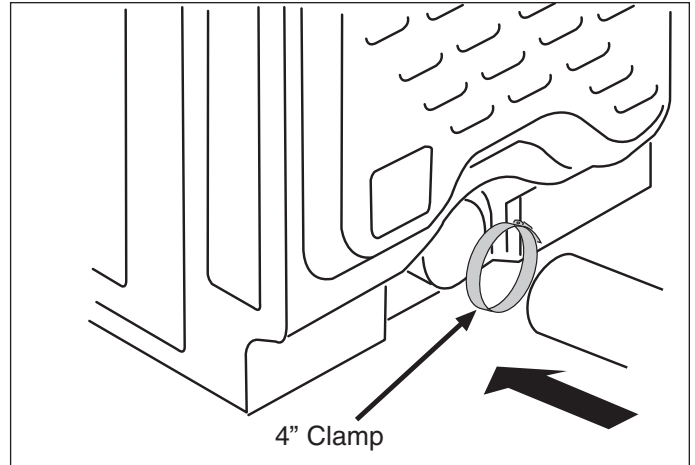

Figure 2-15.
1. Connect exhaust duct to the outside exhaust system. Use of a 4" (10.2 cm) clamp is recommended to connect the dryer to the exhaust vent system. Use metal foil tape to seal all other joints. (See Figure 2-15)